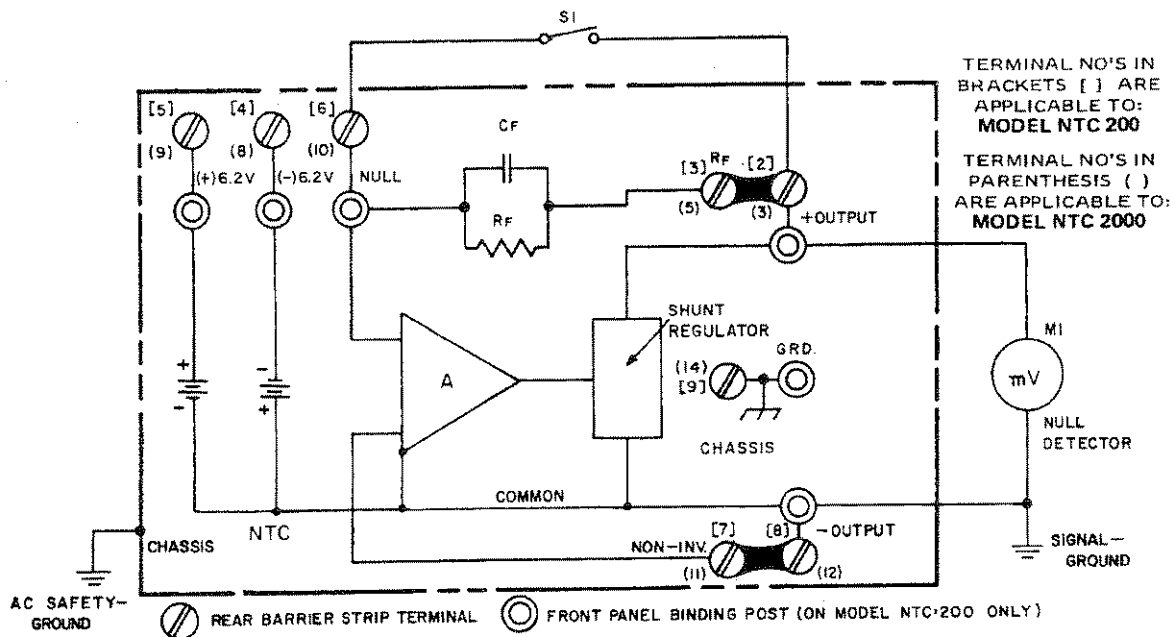

FIG. 3-2 OFFSET NULLING CIRCUIT.
- Connect external components as shown in the diagram. (Refer to FIG. 3-2.) The "Null Detector" (M1) should be a sensitive instrument such as the MILLIVAC Model MV-07C or a digital meter. The shorting switch (S1) may be replaced by a shorting wire.